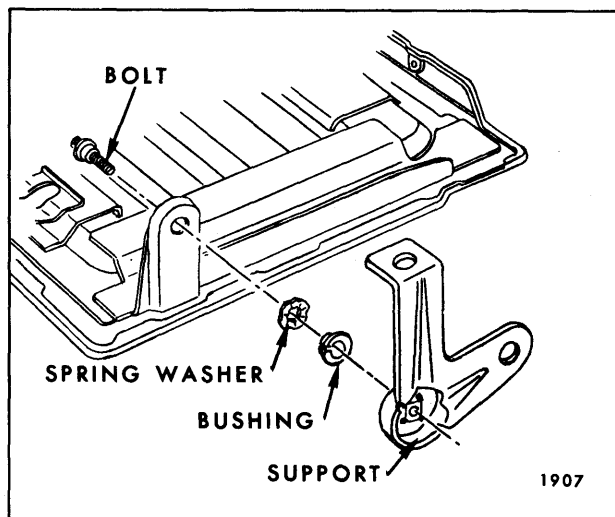

Fig. 15-58—Third Seat Cushion Panel and Support
To remove support, remove cushion from panel assembly; then remove bolt securing support to cushion (Fig. 15-58).
3. To install, reverse removal procedure. If support was removed from seat cushion panel, make sure bushing and spring washer are properly installed. (See Fig. 15-58).